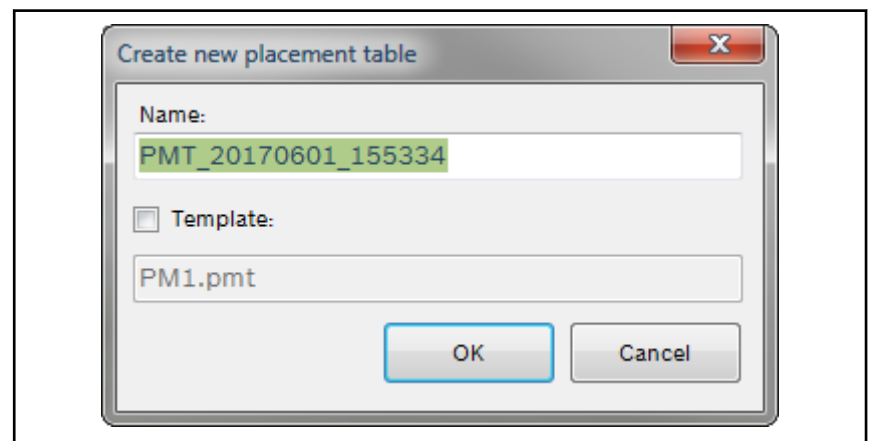

Fig. 7-37: Dialog to create a new placement table
A dialog opens to create a new placement table (see fig. 7-37 "Dialog to create a new placement table" on page 205).
1. Open the **New** dialog (see fig. 7-37 "Dialog to create a new placement table" on page 205) as described above.